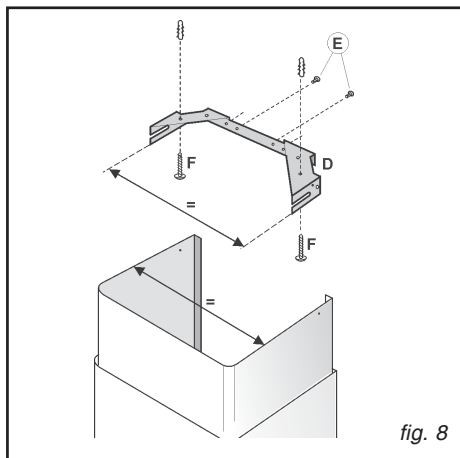
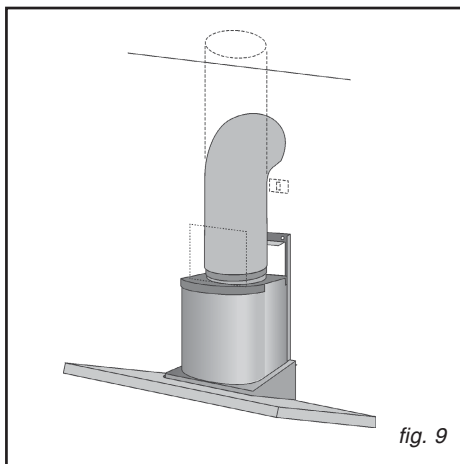

fig. 8
fig. 9
- Adjust the width of the support bracket (D) of the telescopic flue by means of the screws (E) as shown in Fig.8.
- Then, by means of the screw anchors and screws (F) provided, fix the bracket to the ceiling in such a way that it is positioned along the axis with your hood.
- Connect the air outlet pipe to the air vent of the hood; use a flexible pipe and lock it to the air vent of the hood with a metal hose clamp - Fig. 9 (pipe and clamp are not provided).
- Adjust the width of the support bracket (D) of the telescopic flue by means of the screws (E) as shown in Fig. 8.